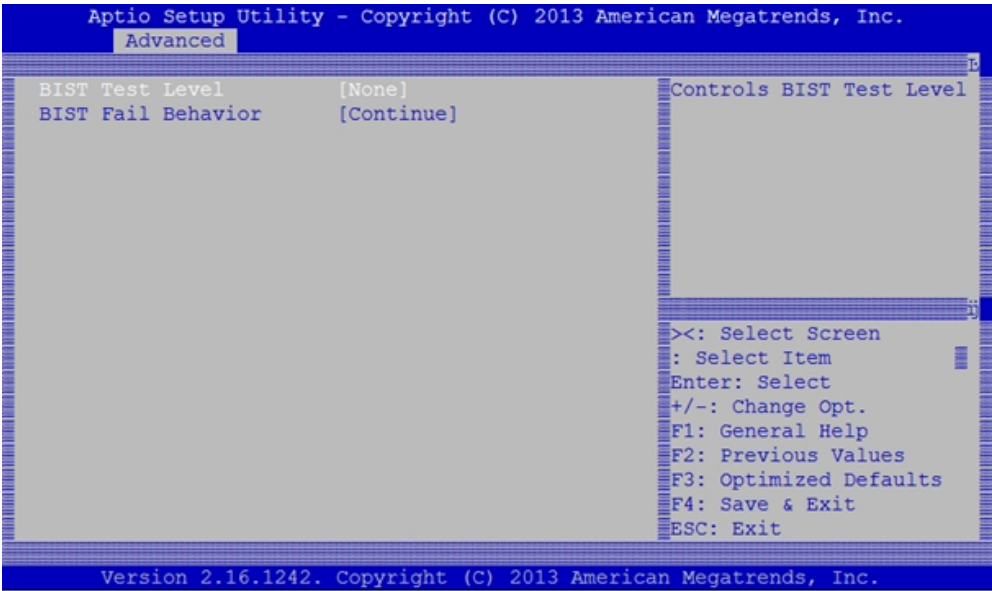

Figure 7-13: Selecting BIST Test Level options
2. On the *BIST Configuration* screen (Figure 7-13 on the facing page).